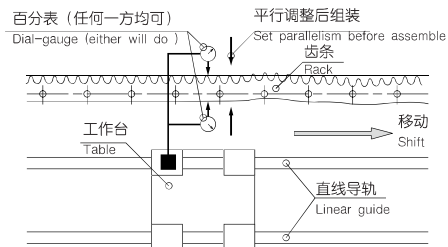

图2 齿条平行的测量方法 / Fig. 2 -Measuring procedures for parallelism of Rack-
2. 以直线导轨为基准将齿条调节平行 (参照图2)。相对于导轨, 使用百分表确认齿条齿顶的平面度 (或齿底面) 以及侧面的跳动, 请调整到齿条安装的精度值以下。 (参考P21安装精度表)
Check parallelism between linear guide and Rack <refer to Fig. 2>. Confirm shifted width between guide block and tooth tip of Rack (tooth surface) and adjust it below mounting precision of Rack. (refer to list of mounting precision P. 21)